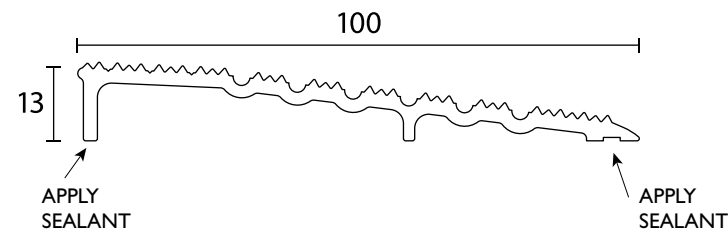

FIG.3
STEP 1 Machine cut threshold ramp to required length to suit application (FIG.1 & FIG.3).
STEP 2 Check out threshold ramp ends to allow for door jambs/stops (user determined) (FIG.1 & FIG.3).
STEP 4 Position threshold ramp to suit application (FIG.1 & FIG.3).